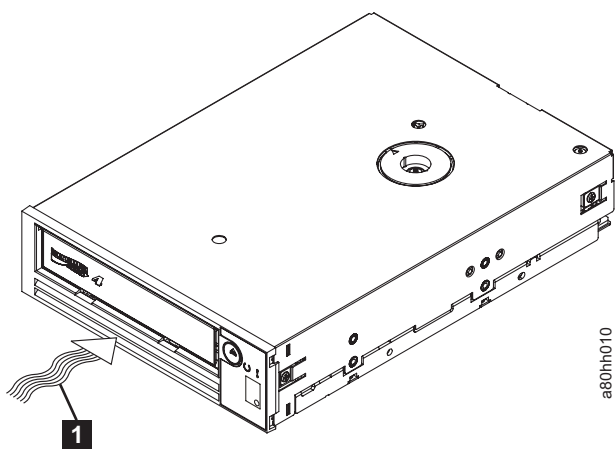

Figure 2-1. Temperature of the Half-high drive is taken near the air intake area
**Note:** Measured in front of the bezel, near the air intake area (refer to Figure 2-1 on page 2-2).
Acclimation time is required if the temperature of the drive when unpacked is different than the temperature of its operating environment (measured at the front of the bezel near the air intake area ( **1** ) as shown in Figure 2-1 on page 2-2). The recommended acclimation time is four hours after the drive has been unpacked or one hour after any condensation that you can see has evaporated, whichever is greater. When acclimating the drive, apply the following measures: